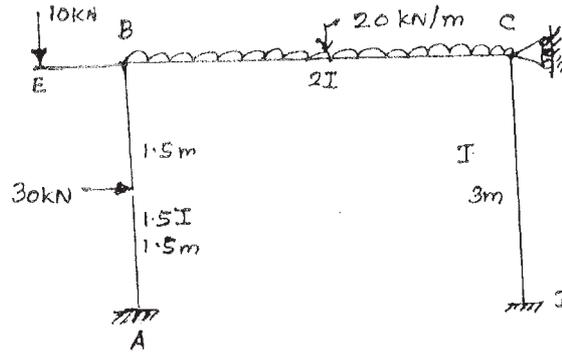

Fig. 7
- (b) Find the moment at the critical sections. Draw B.M.D. for the frame shown in Fig. 7.